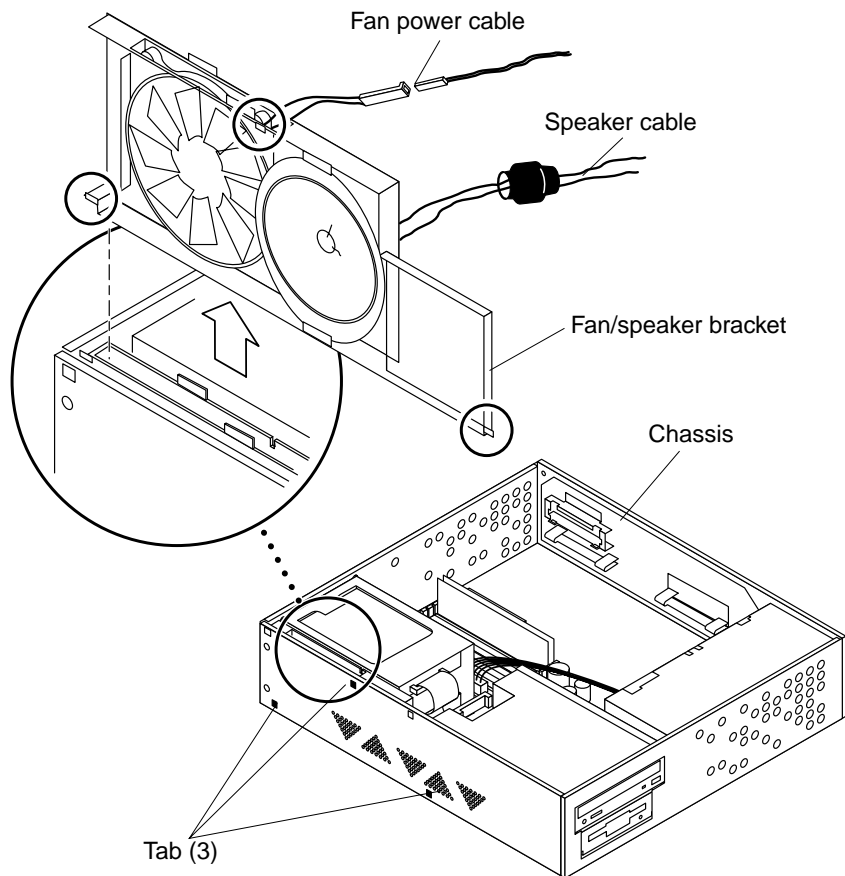

FIGURE 8-10 Replacing the Fan/Speaker Bracket
1. Replace the fan/speaker bracket as follows (FIGURE 8-10):